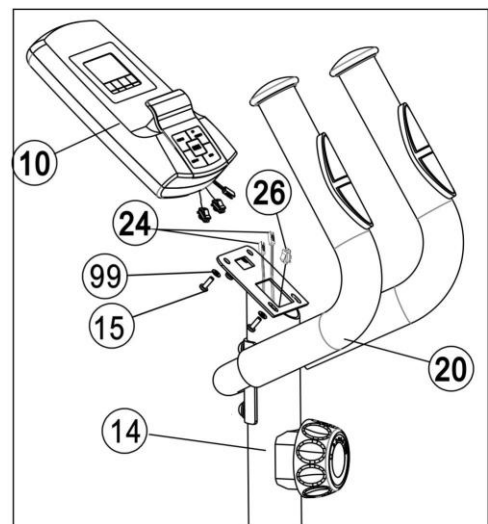

Figure 5
- a. Connect the Pulse wires (24) with Sensor wire 2 (26) and put the extra wires into the tube.
- b. Attach the Computer (10) to the top of the Front upright frame (14) and tighten with Crosshead bolt M5 x 10 (75). (Refer figure 5)